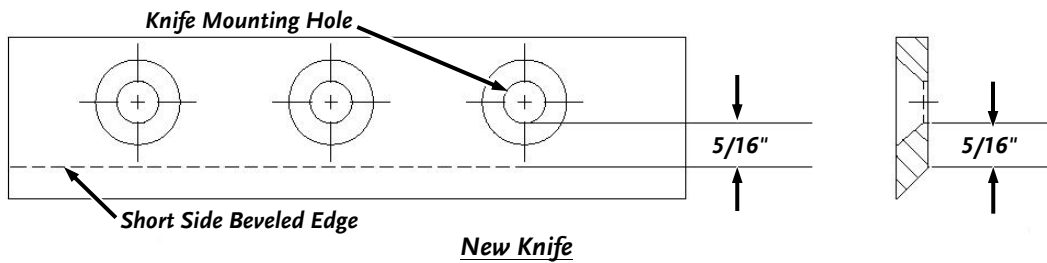

Figure 37
- A new Chipper Knife has a $5/16$ " measurement between the short side bevel edge and the Knife mounting holes (**Figure 37**).